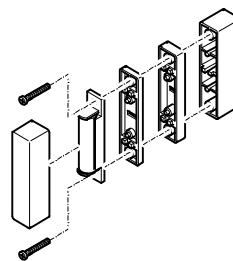

Fig. 8
5. The magnet unit is comprised of a fixation base, two spacers, a permanent magnet and a cap. Dismantle the unit into its individual parts by pulling it apart. Refer to Fig. 8.
7. Screw the permanent magnet firmly to the fixation base. Check the height in relation to the door/window detector beforehand and use the optionally available spacers which can be plugged onto the fixation base. Refer to Fig. 8.